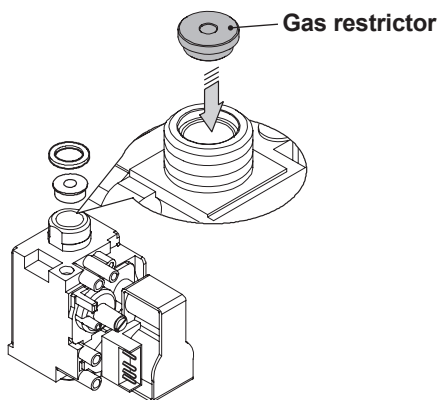

Fig. 8.2
- Carry out gas conversion by correctly replacing the gas restrictor (Fig. 8.2), referring to the "Technical Data" section page 30 (Inovia 16S), page 32 (Inovia 25S).